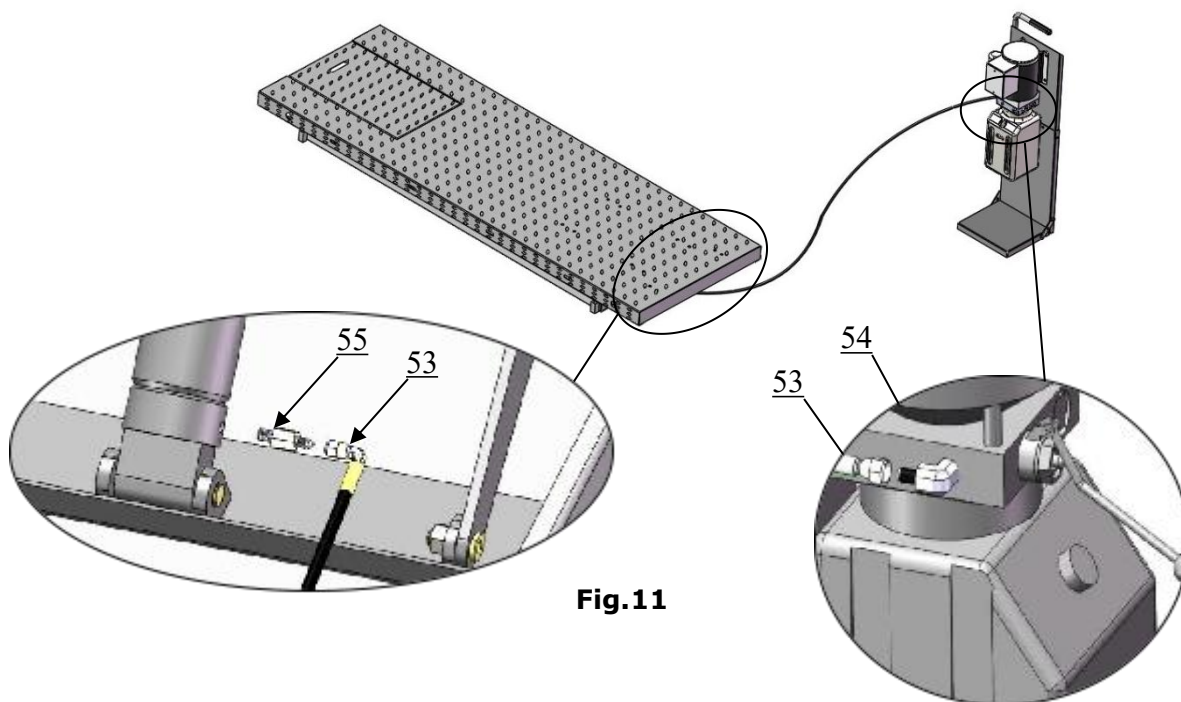

Fig.11
C. Place the lift and control cabinet to the installation site, connect the oil hose and tighten the fitting (see Fig.11)